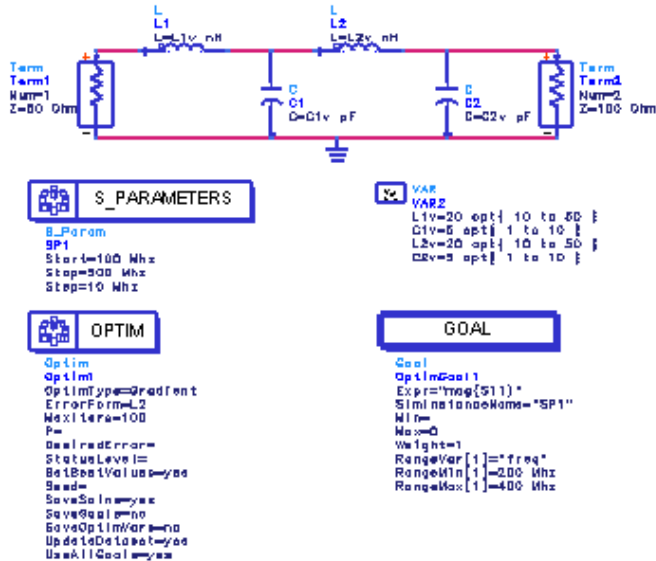
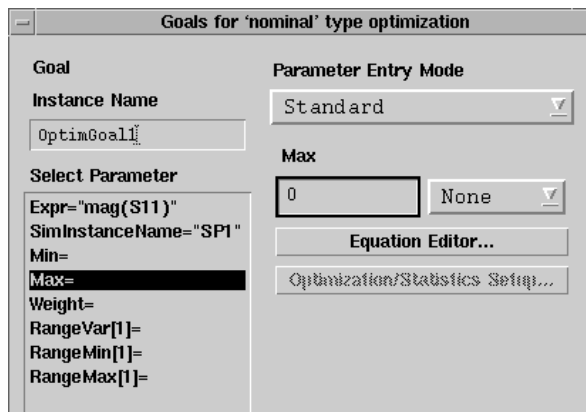

Figure 2-3. Design with Nominal Optimization and Goal component Added
Figure 2-4. Specifying Optimization Goals
1. Since the intent of this design is to match the 100-ohm load resistance to 50 ohms, and we are measuring the input reflection coefficient  $S_{11}$ , the goal is to make  $S_{11}$  as small as possible. We place a Nominal Optimization component and a Goal component from the *Optim/Stat/Yield/DOE* palette into the design, as shown in Figure 2-3 and make appropriate specifications.
Notice that in the Goal component, we have set the goal magnitude of S11 to zero in the *Goals for 'nominal' type optimization* dialog box, as shown in Figure 2-4. This box is accessed by double-clicking on the placed Goal component as shown Figure 2-3 in Figure 2-4.